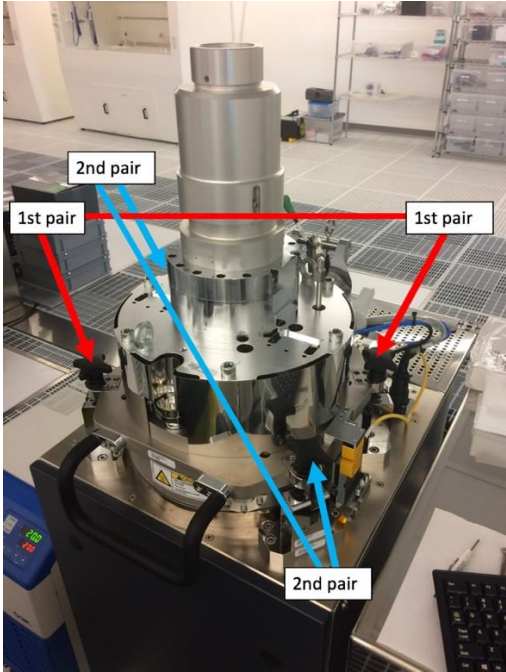

Figure 1: Unlocking the bonding chamber two knobs at a time
1. Unlock the four knobs holding the chamber down two-knobs-at-a-time, starting at the one closest to the computer and the one diagonally opposite (top-right and bottom-left when facing the bonder). See Figure 1 below for more details.